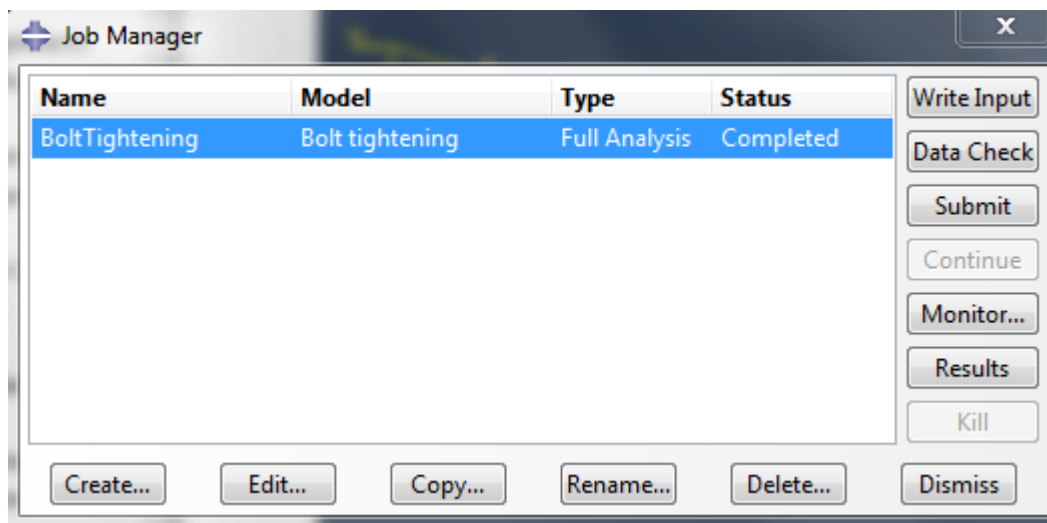

Figure L1–24. Job status in the **Job Manager**.
2. Plot contact pressures on the gasket (use the **Field Output** toolbar to change the selected output variable to **CPRESS**). The plot appears as shown in Figure L1–25. Firm contact is established between the gasket and the plates, resulting in a tight seal.